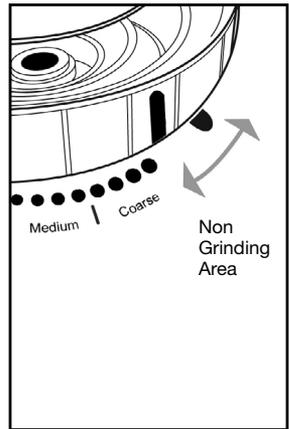

Fig. 3a
2. Between the insertion marking and the coarsest setting (Fig. 3a) the grinder will not grind.
- You can also interrupt grinding by turning the bean container to the right (counter clockwise) beyond the coarsest setting (Fig. 3a). This will stop the grinding action. The cup selector will still run until it stops in the 0-position.